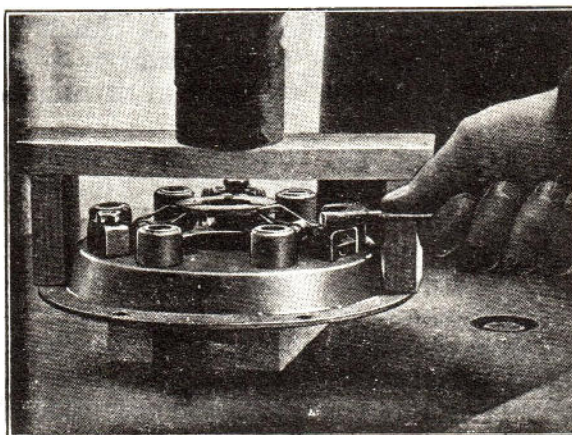
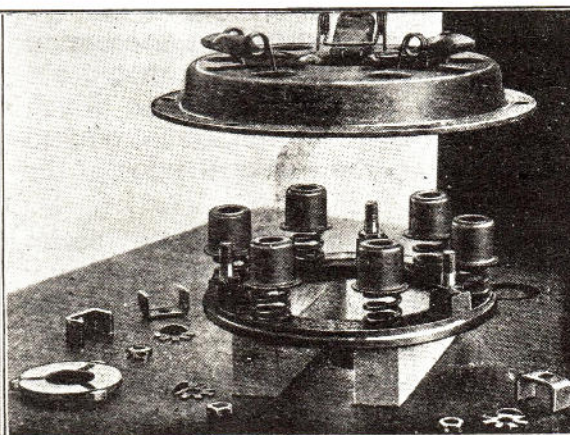

Fig. 36.
Fig. 37.
1. Suitably mark the following parts, Cover (4), Pressure plate lugs (18), Release levers (12) in such a manner that they can be re-assembled in the same relative positions to each other in order to preserve balance and adjustment.
2. Detach release lever plate (10) from retaining springs (11) straighten bent arms of tag washers (14) and place cover assembly under a press with pressure plate (18) resting on wood blocks so arranged that cover (4) is free to move down.
3. Place three blocks of wood to form a bridge, the legs of which should rest on the outer rim of cover (4) as shown in Fig. 36.
4. Compress the cover with the spindle of the press on the centre of the wood bridge and holding it under compression remove adjusting nuts (16).
6. Lift cover off exposing all remaining parts for inspection, Fig. 37.
2. Place pressure plate (18) Fig 36 on blocks under press as described under Dismantling, and place thrust springs (5) on it in a vertical position seating them on the bosses on the pressure plate. Place spring caps over their outer ends as shown in Fig. 37.
3. Mount the release levers (12) on cover and knife edge fulcrums (13) by slipping the inner ends of release levers under the
4. Place the cover (4) over assembled parts as shown in Fig. 37 taking care that the machined portions of the pressure plate lugs are directly under the slots in the cover through which they have to pass. Make sure, if using original parts, that cover, pressure plate lugs and release levers are assembled in the same relative positions as marked when dismantling, to ensure correct balance is maintained.